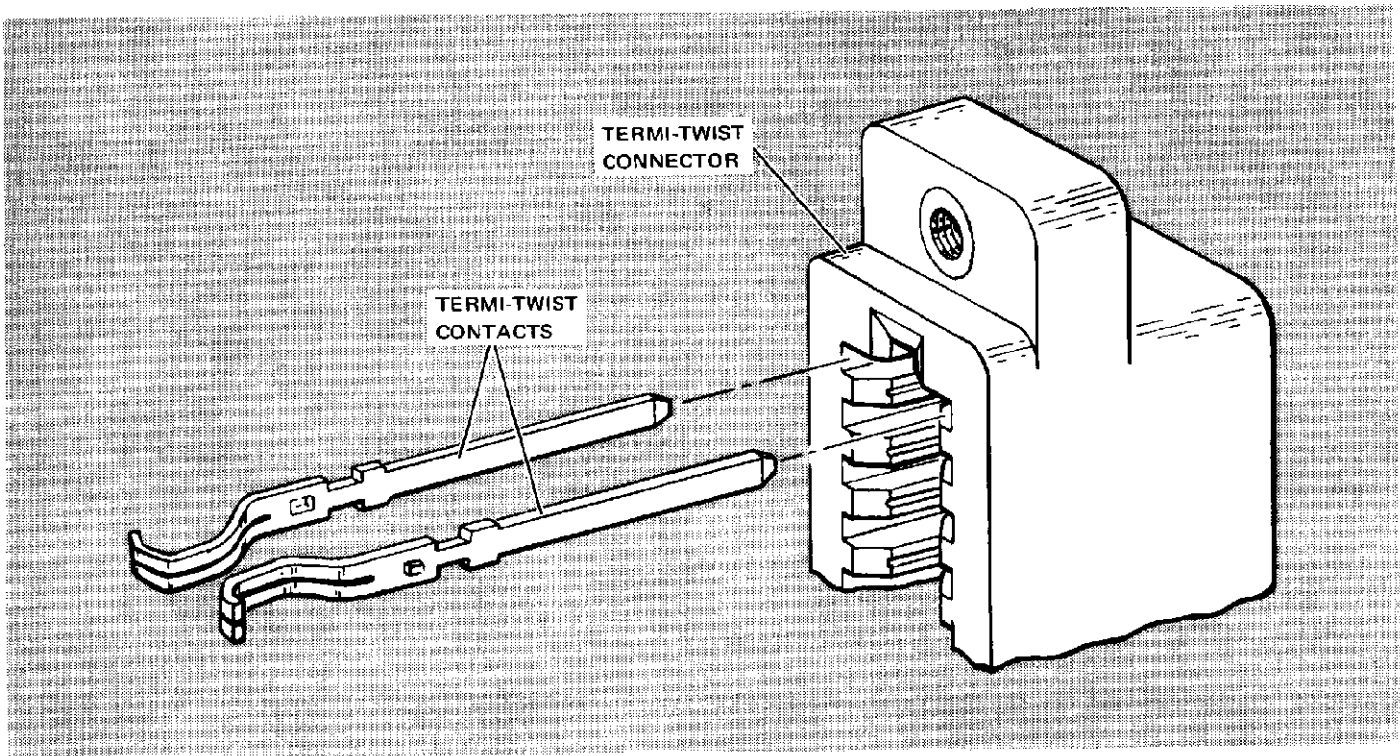

Figure 4
- Insert contact into connector, as shown in Figure 4.